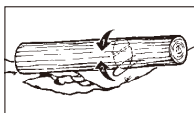

Fig. 13C
3. Log supported on both ends: First, overbuck 1/3 diameter of log to avoid splintering. Second, underbuck to meet first cut and avoid pinching (Fig.13C).